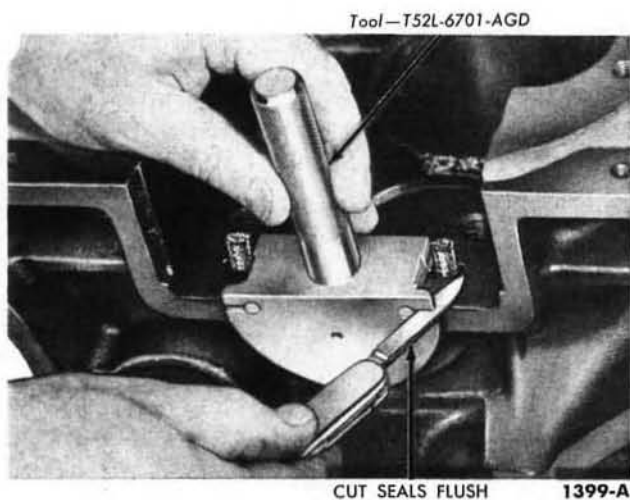
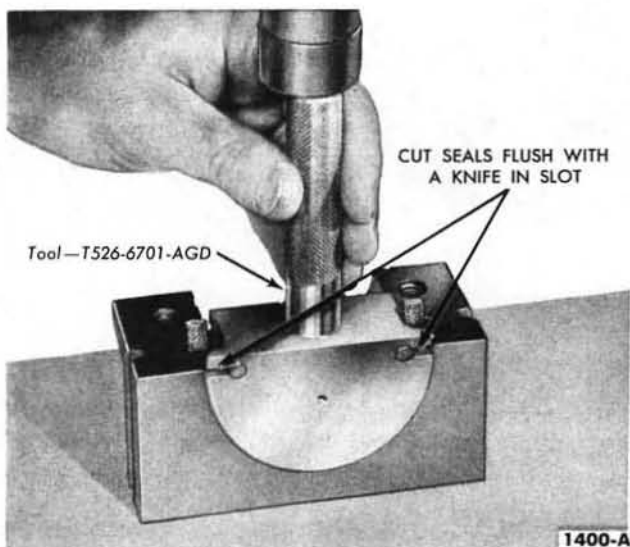

FIG. 35—Rear Oil Seal To Block Installation
FIG. 36—Rear Oil Seal To Rear Bearing Cap Installation
1. Be sure the bearings, crankshaft journals, and the rear journal oil seal grooves are clean. Install a new rear oil seal in the cylinder block (Fig. 35), and in the rear main bearing cap (Fig. 36). After installation, cut the ends of the seals flush.